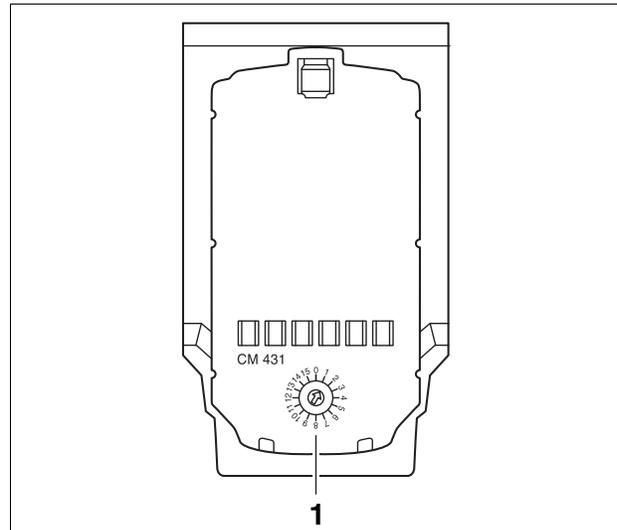

Fig. 5 Setting addresses
Address settings (→ Fig. 5, [1]) for the Logamatic 4323 control panel are made on the CM431 module (behind the MEC2 remote control).
- You can now set the control panel address with a screwdriver (→ Fig. 5).